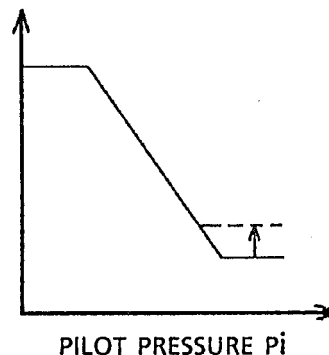

Fig. 10 Adjusting the min. discharge flow
Adjust the minimum flow by loosening hexagon nut (806) and by tightening socket head capscrew (953) (or loosening it). Tightening the socket head capscrew increases the delivery rate, as indicated in Fig. 10.